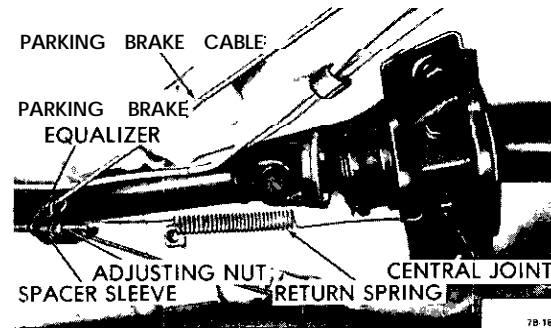

Figure 7B-16 Parking Brake Equalizer and Return Spring
9. Unhook parking brake cable return spring and remove cable adjusting nut, equalizer, and spacer. See Figure 7B-16.
9. Disconnect drive shaft at central joint and remove as follows: See Figure 7B-16.